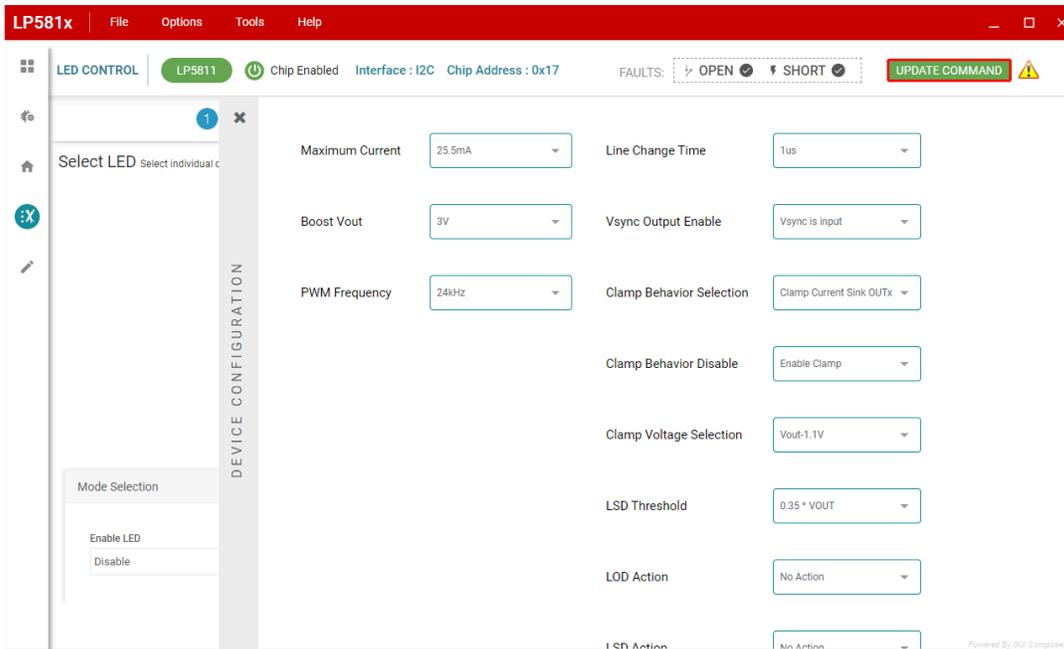

Figure 3-9. Device Configuration Page
5. **Device Configuration**: Click this button to navigate to the Device configuration page. See Figure 3-9.